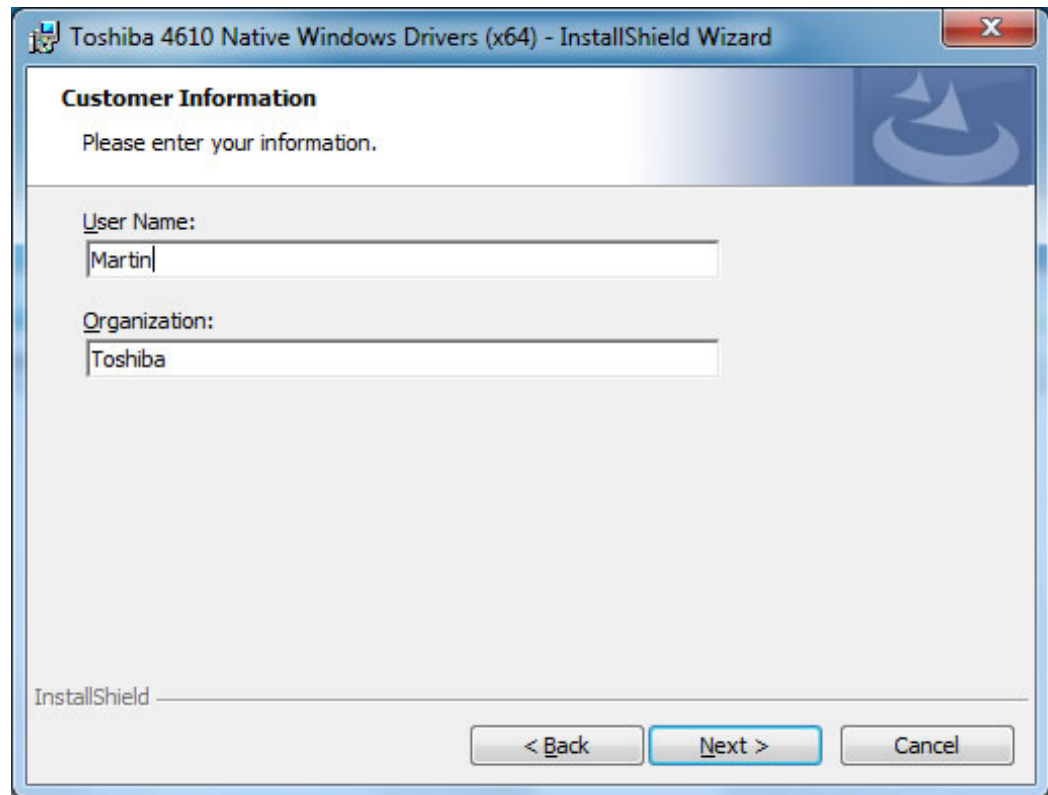

Figure 16. Customer Information window
4. Click **"I accept the terms in the license agreement"** and click **Next**. The Customer Information dialog box opens. See Figure 16.